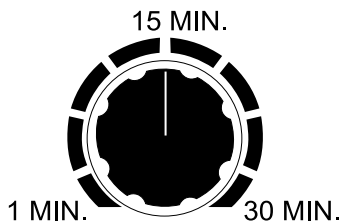

Figure 53. Time Regulator
- Next, set the time regulator to the desired setting. The example shown in (Figure 53) indicates 15 minutes.